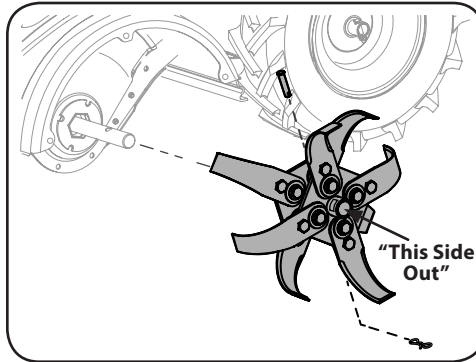

Figure 5-7
1. Remove the bow-tie cotter pin from the clevis pin, and remove the clevis pin securing the tine assembly to the transmission drive shaft. Slide the tine assembly off the shaft. See Figure 5-7.